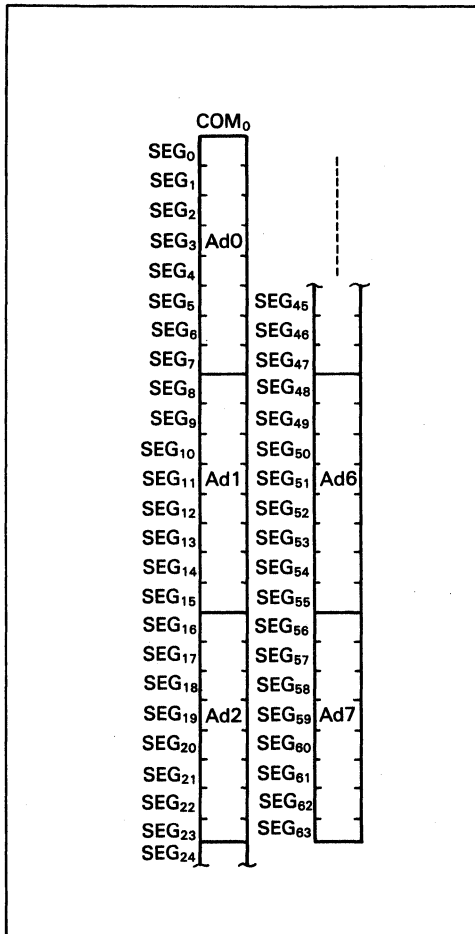
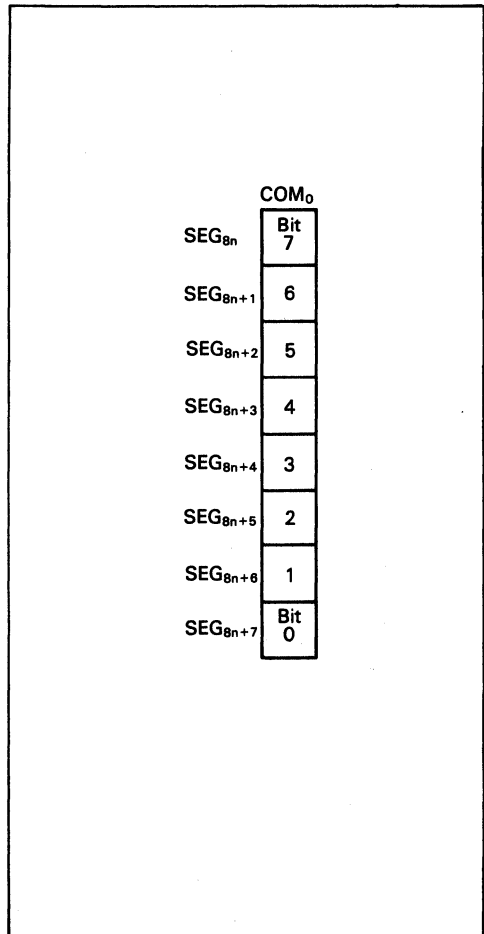

Figure 12 Allocation of Digits (HD61605)
Figure 13 Bit Assignment in an Ad_n (HD 61605)
The 8-bit data is written on a digit basis into the digit address (displayed as Adn) shown in figure 12. When data is transferred from a microprocessor, four 4-bit data are needed to specify the digit address and an 8-bit display data. Figure 13 shows the correspondence between each segment in an Adn and the transferred 8-bit data.
- Display address: Digit address Adn shown in figure 12.
- Display data: Pattern data written into the display RAM as shown in figure 13.